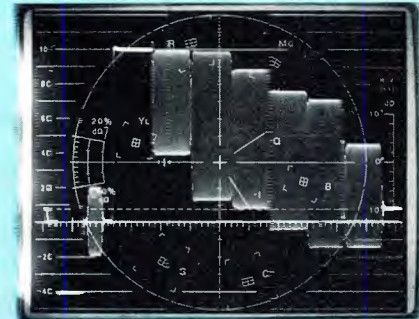

Figure 11. Selecting "WFM" and "R-Y" together provides this display and AFC sweep synchronization.
- "WFM" and "R-Y" advance the waveform display such that the horizontal blanking interval is viewable at the beginning of the display (Figure 11).